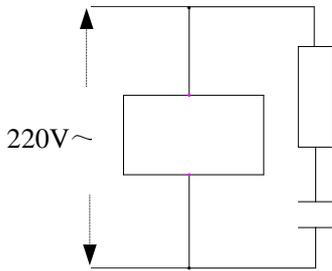
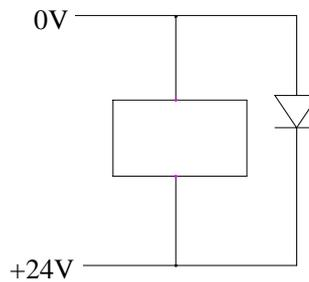

Fig.1-5
Fig.1-6
- 3, Noise suppressor: Parallel connect RC-type loop with AC coil (as fig.1-5) and RC-type loop must be as near as possible to inductance load. Conversely parallel connect diode with DC coil (as fig.1-6) .Parallel connect surge absorber with coil of AC motor.